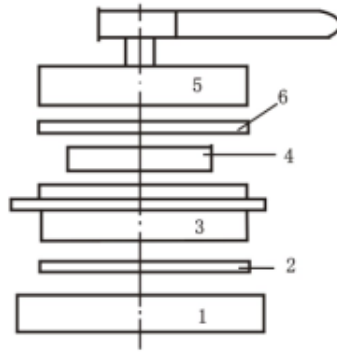

Figure 3
5) Measurement of powder samples(see figure 3), clean the power powder box with a clean brush, put some ground glass(2) into the press cover (1), revolve the powder plate(3) tightly, put the being measured sample into the powder box and move the extra powder which is above level, set the press piece(4), revolve the powder presser(5), revolve the handle clockwise, the sample is considered to be tightly pressed after the appearance of “TATA” sound, after that, revolve the handle anticlockwise by 720°, revolve the powder presser out and take out the press piece. Cover the plastic bottom cover(6), turn the powder box, revolve the press cover off, uncover the ground glass, put the powder box into the sample hole, press test, the whiteness value of the object will be displayed in 3 seconds.